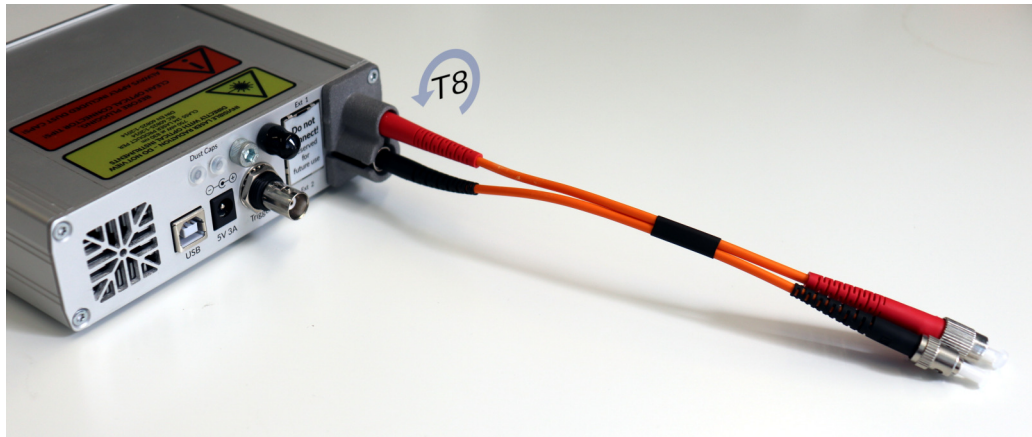

Figure 8: Rear view of Computer Interface with short fiber-optic cable fixed to its housing
- In case of a burn-in defect at the Computer Interface, experienced users may remove and replace the short orange fiber cable attached to the Computer Interface shown in Fig. 8. A spare cable is delivered with each system. Please contact LUMILOOP for detailed instructions. Computer Interfaces without this short cable and associated cover can be refitted for improved system reliability. For older systems the sacrificial cable is attached directly to the Computer Interface. Please contact LUMILOOP support for more information.